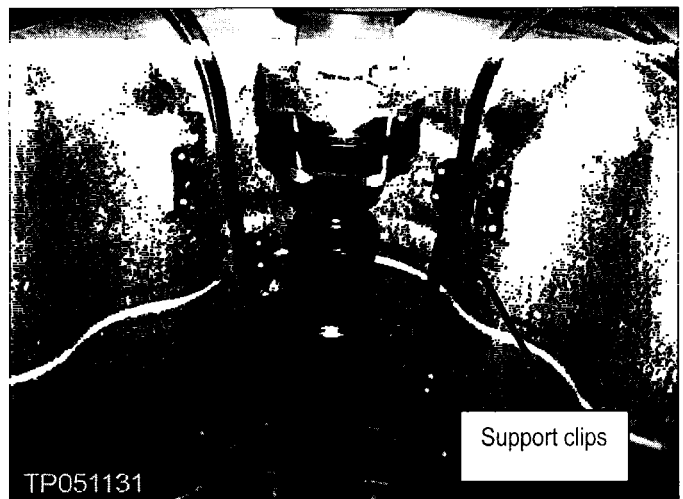

Figure 54
20. Remove the parking brake cables from the support clips (see Figure 54).